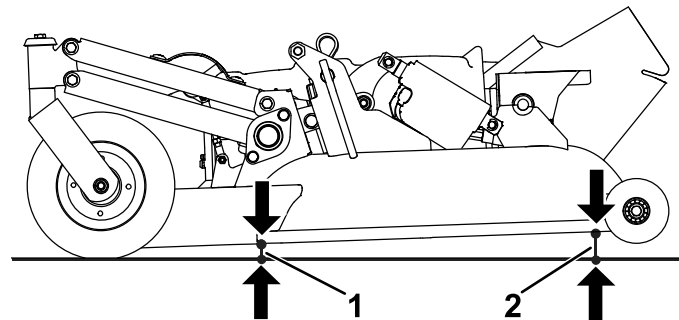

Figure 98
3. Measure the distance between the ground and the forward-most point of the cutting unit (Figure 98).
4. Measure the distance between the ground and the rear-most point of the cutting unit (Figure 98).